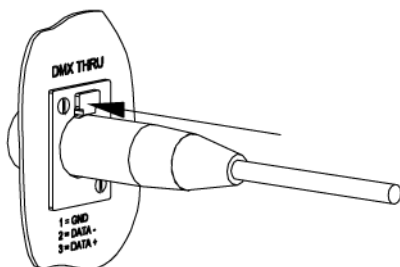
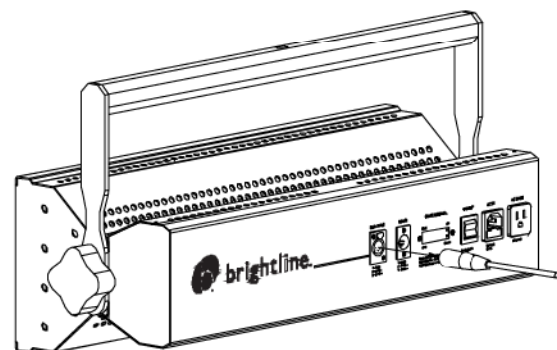

Figure 5
Figure 6
3. To disconnect the male end of cable, press in the release button on the female receptacle (Figure 5) and pull the plug out of the receptacle (Figure 6). Pressure should be applied to the plug, not the cables.